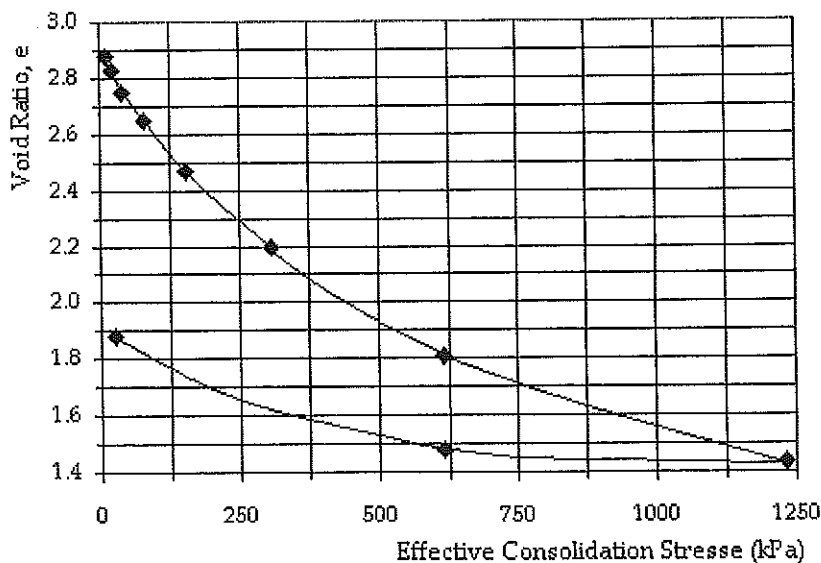

Fig. B5d
- Fig. B5d shows the variation of Void Ratio versus Effective Consolidation Stress. Based on the given information compute the Coefficient of Volume Compressibility and the Compression Index for said soil specimen. (4 points)